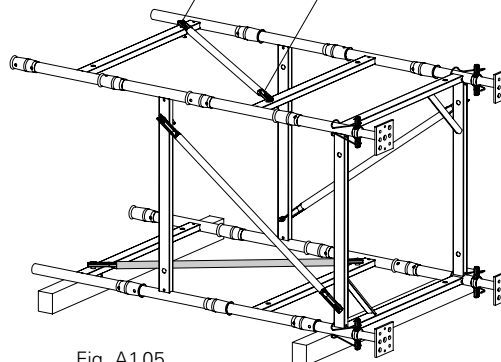

Fig. A1.05
7. Place tower base together with Base Spindles on timbers. (Fig. A1.05)